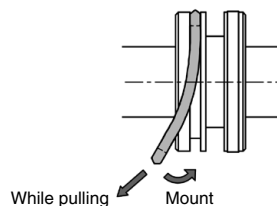

Fig. 5 Installation of piston seal
③⑦ Rod seal A: Mount the seal in the correct direction.
③⑨ Piston seal: Mount the seal while stretching it as Fig. 5.